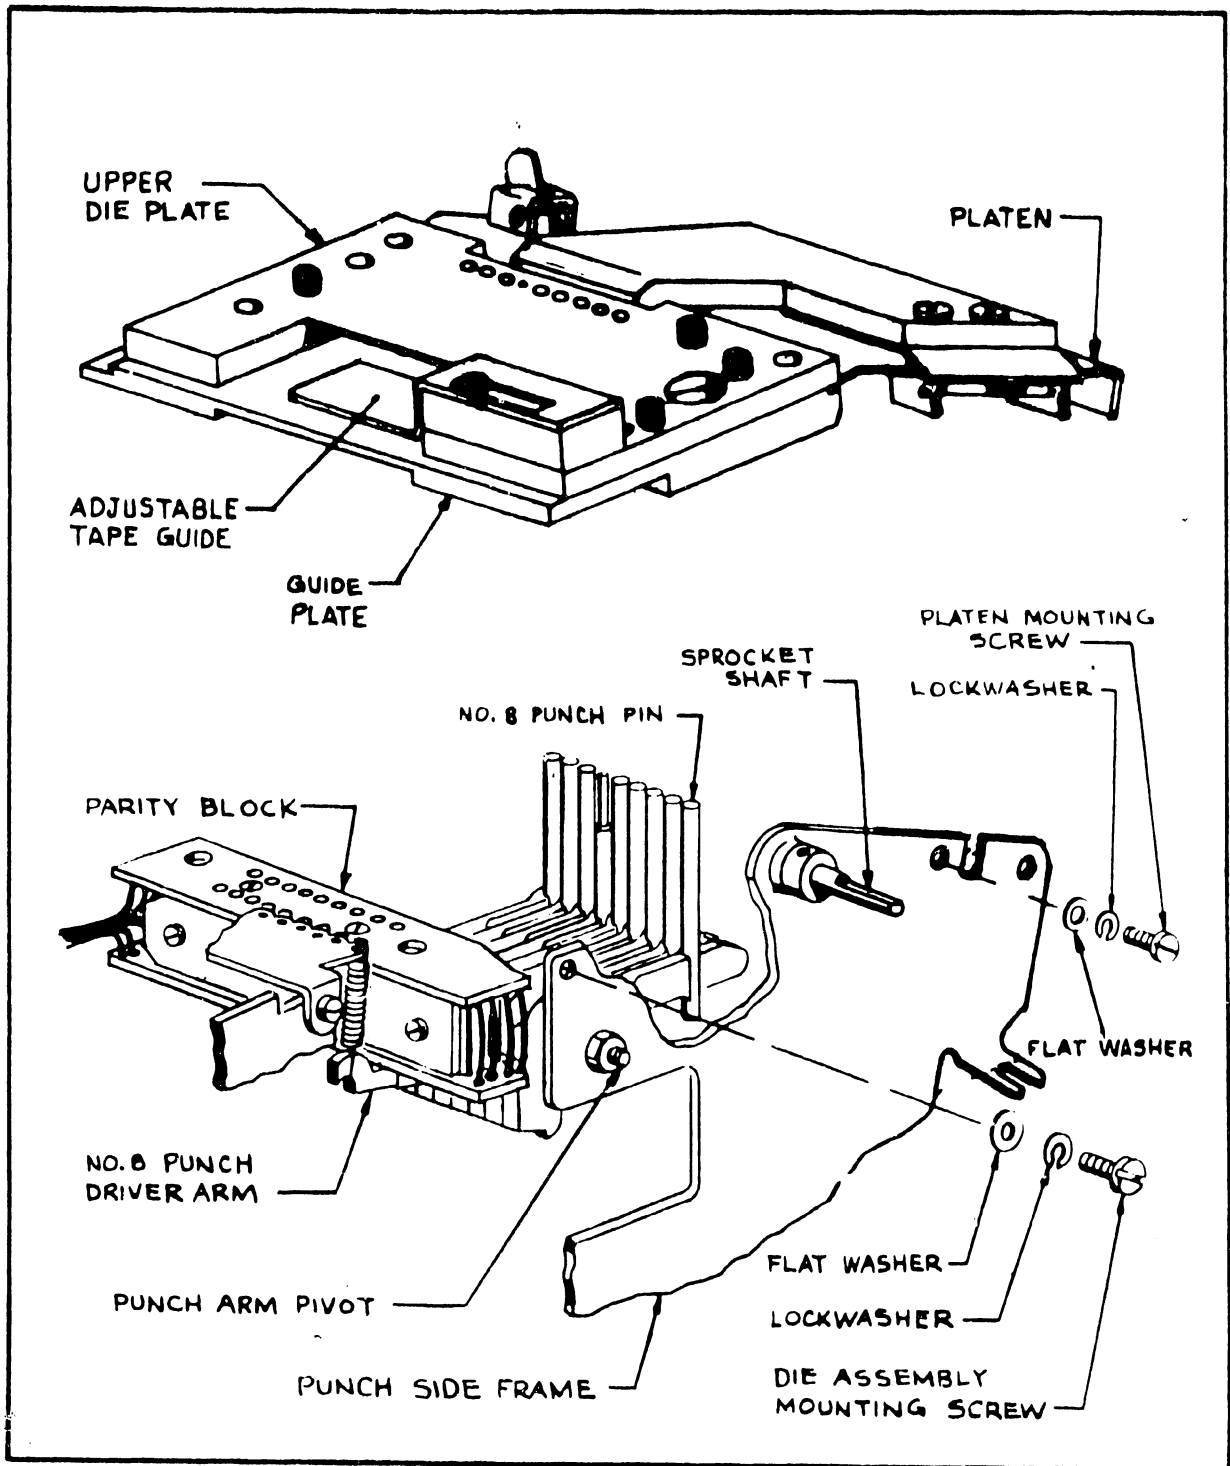
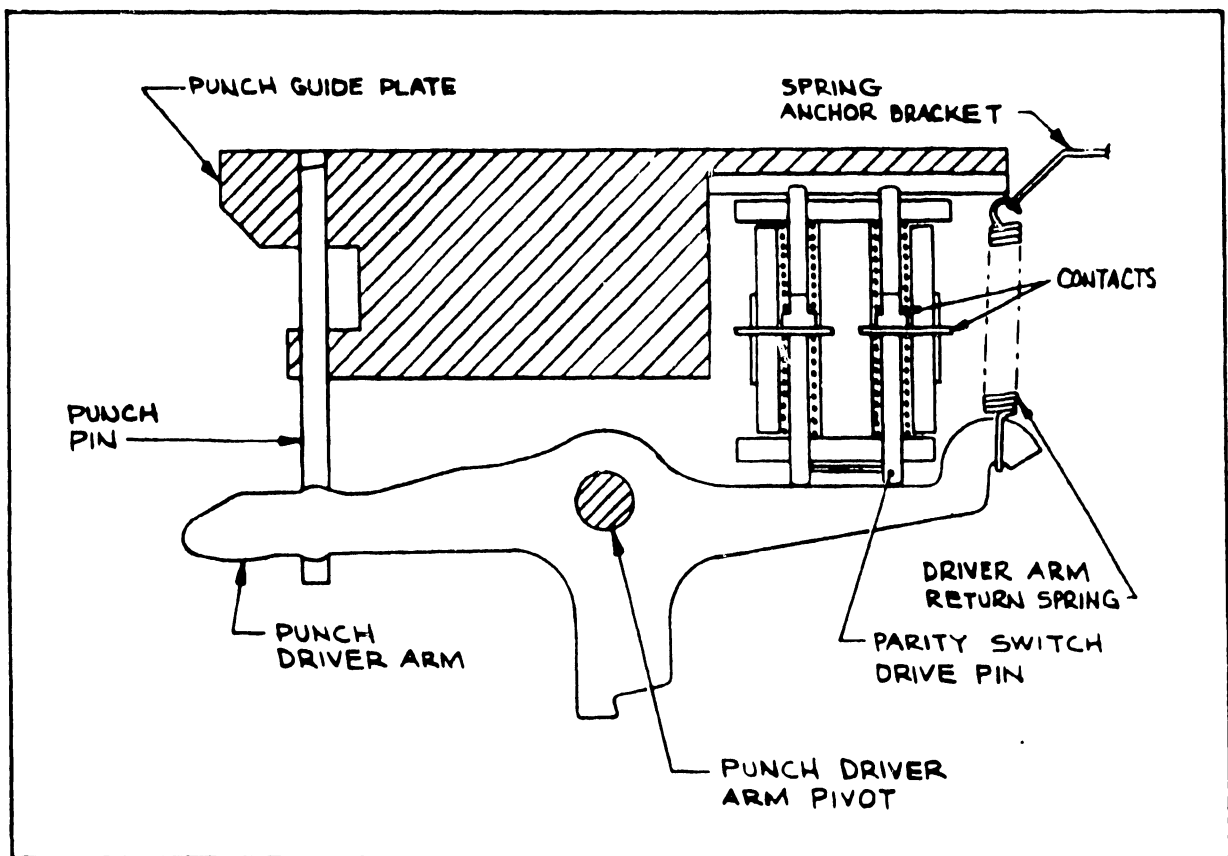

Figure 3.7 Punch and Die Assembly
Figure 3.16 Cutaway through Punch
2. Remove the two die assembly mounting screws with flat and lock-washers from each punch side plate; see Figure 3.7. Hold the punch mechanism tilted sideways to prevent losing the #8 punch pin which is not held in place because it has no adjacent arm and which, therefore, could fall out of the die as soon as the assembly is moved. Carefully pull the die assembly in the direction toward the solenoids to clear the platen and then raise the assembly to clear punch pins #1 through #7. These punch pins remain attached to their arms.
The optional parity switch block consists of 15 switches of the double-throw type which are contained within the block. The block is a molded assembly mounted to the underside of the punch die plate as shown in Figure 3.7. A cutaway view through the block is shown in Figure 3.16.